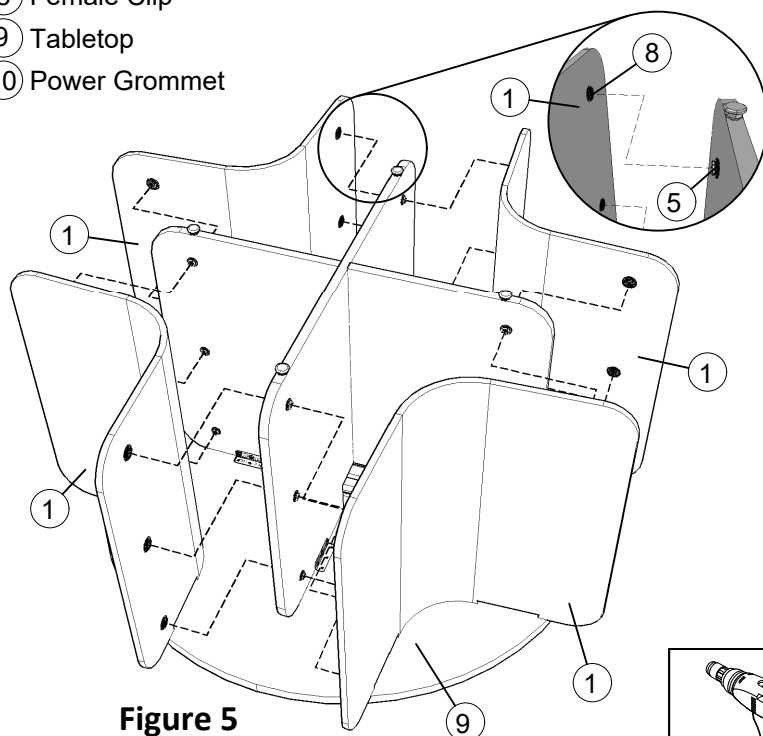

Figure 5
5. Bend the PET and align the Female Clips with the Male Clips attached to the laminates. Then, push the PET to connect the clips together, as shown in Figure 5.